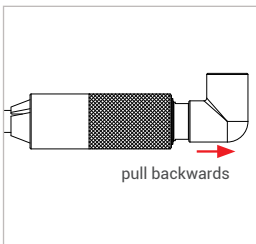

Figure 5
- ▶ Pull gently on the lower part of the connector (Pos. 2) (red arrow Figure 5) in the direction opposite that of the connection to make sure that the connector is properly connected.